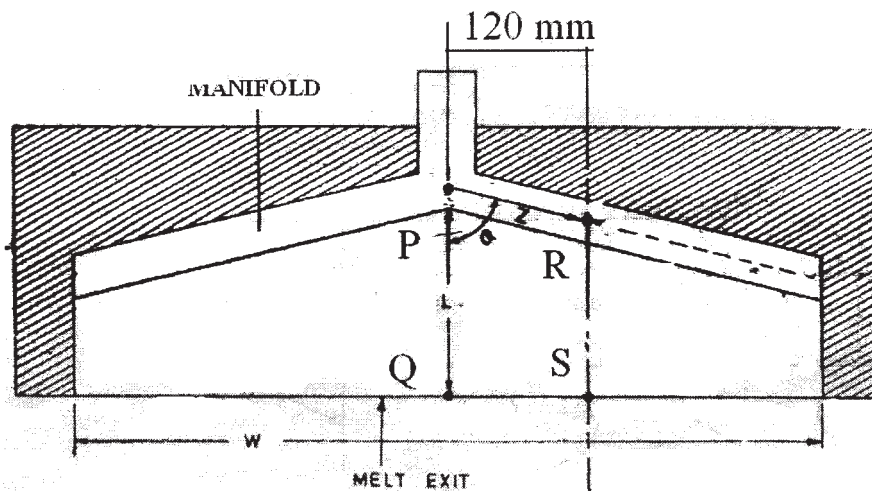

FIGURE 3
**Q10)** Calculate the pressure drop along PQ and PRS through a coat hanger film die shown in figure 3. [10]